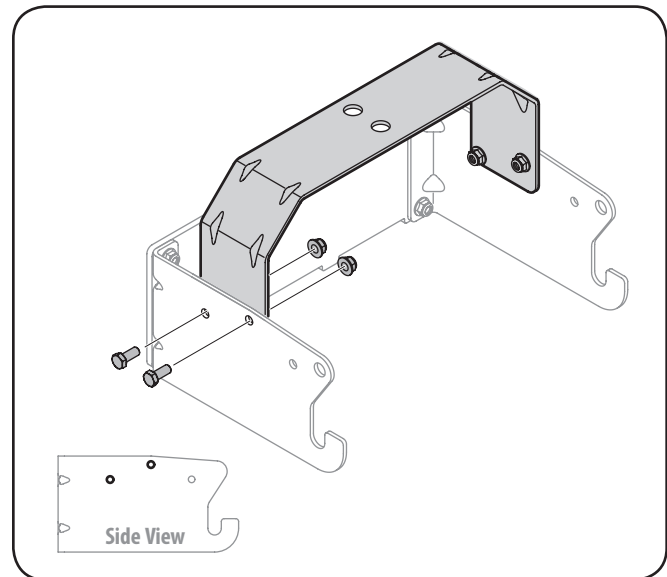

Figure 4-2
2. Flip over assembly and mount the hitch support bracket to the mounting assembly using the hardware found in pack 689-00087. See Fig. 4-2.